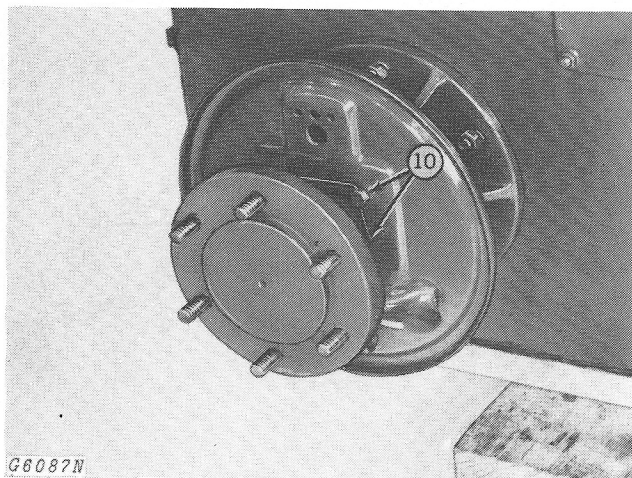

Fig. 8-Removing Backing Plate
10. Cut safety wire and remove four cap screws from the backing plate (Fig. 8). Let backing plate rest on axle.